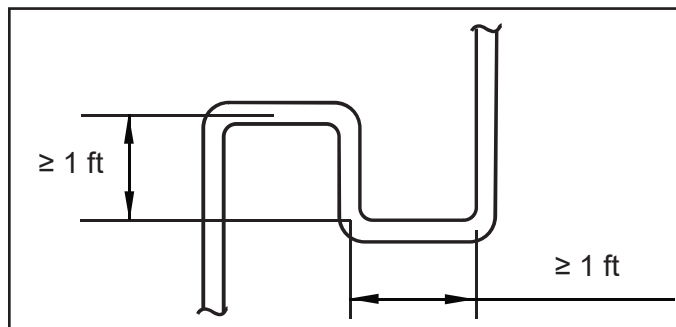

Figure 13. Oil Return Trap
- When the outdoor unit is installed 164 feet (50 m) or more above the indoor units, install an oil return trap every 33 feet (10 m) in the main low pressure gas pipe. See Figure 13 for trap specifications.